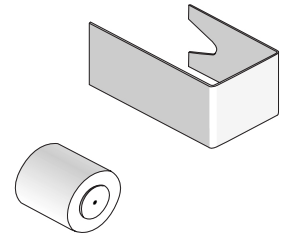

Figure 4. 01-106 Glass Bead Holding Fixture
- Flux glass bead and insert it, long-end first, into 01-106 Glass Bead Holding Fixture (Figure 4).